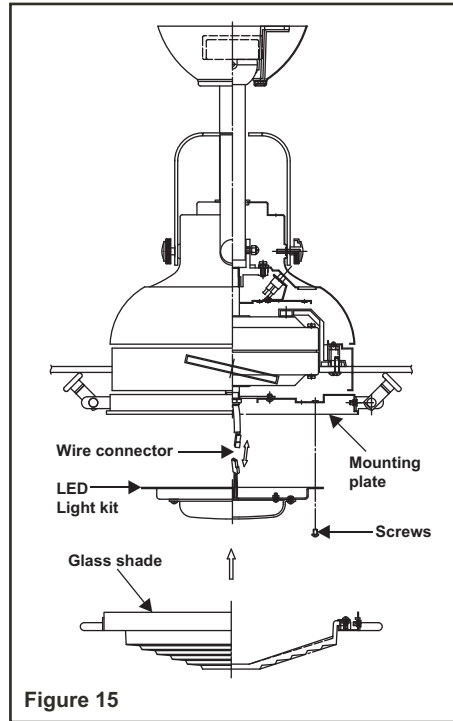
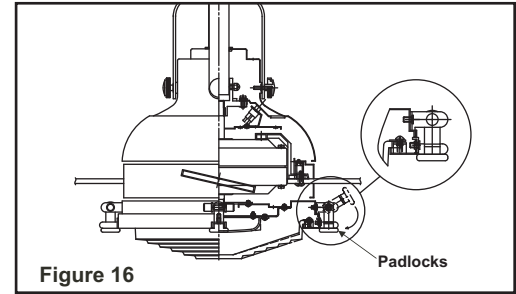

Figure 15
Figure 16
**Step 1.** Remove the 1 of 3 screws from the posts of the mounting plate and keep it for future use. Loosen the other 2 screws. (Do not remove) (Fig. 15)
**Step 3.** Place the key holes in the LED light kit over the two screws previously loosened from the mounting plate. Turn the LED light kit until the LED light kit locks in place at the narrow section of the key holes. (Fig. 15)
**Step 4.** Attach the glass shade to the mounting plate. (Fig. 15) Align the holes in glass shade and mounting plate, and then rotate down from the four padlocks. Secure by tightening all padlocks. (Fig. 16)